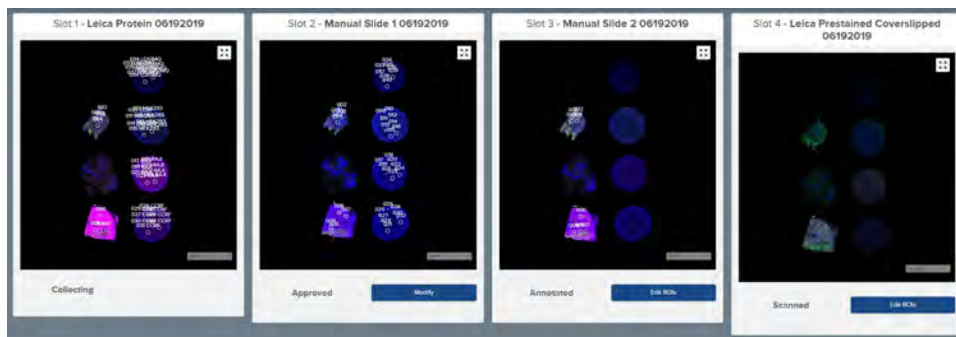

Figure 46: Scan status messages and buttons
3. **Repeat steps 7 - 10 for each slide.** Use the **Edit ROIs** button to open the Scan Workspace for each scan image. Once ROIs have been saved and approved on a scan image, the button below it will change to **Modify**(see Figure 46). You may modify ROIs until it is time for them to be collected.